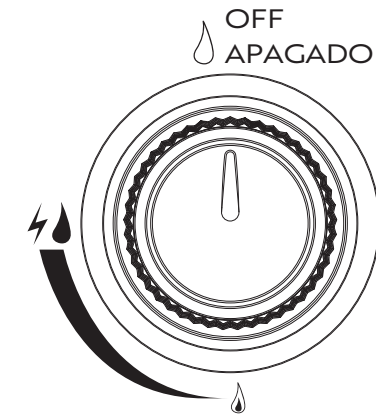

Figure 2
1. Make sure the control knobs are in the "OFF" position (Figure 2)
2. Make sure control knobs are in the "OFF" position (Figure 2)
3. All control knobs must be in the "OFF" position (Figure 2).
2. Turn all control knobs clockwise to the "OFF" position (Figure 2)